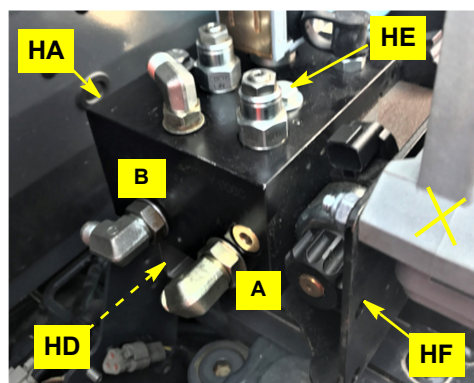

Figure 3: Steering block and controller bracket installed (install controller later)
Using hardware **HE**, attach hydraulic steering block **HA** and steering controller bracket **HF** to bracket **HD** as follows (Figure 3):
**NOTE:** Figure 3 shows the steering controller **HG** already installed; you will install the controller later.